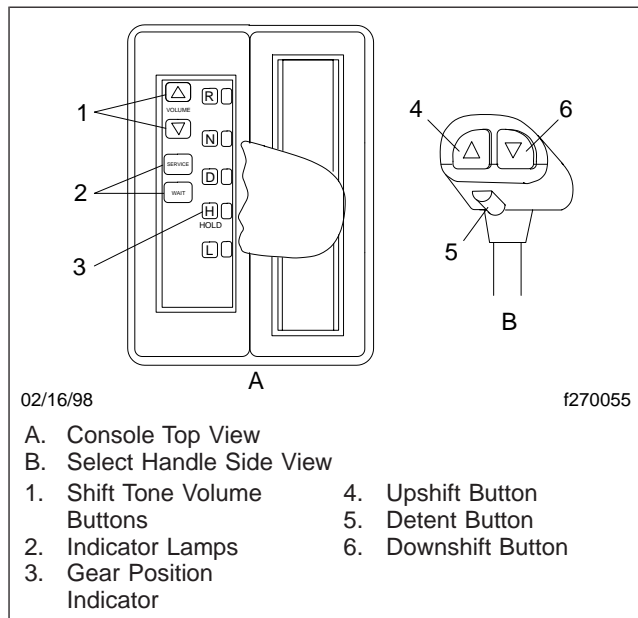

Fig. 8.24, Driver Command Console (DCC)
When conditions are right for a shift, the transmission Electronic Control Unit (ECU) notifies the driver with a tone from the Driver Command Console (DCC). See Fig. 8.24. The driver, when ready to shift, breaks torque and the transmission goes to Neutral.
- The Driver Command Console, or DCC (**Fig. 8.24**), replaces the shift lever and controls the transmission's shift patterns. There are indicators for the three forward positions: drive, hold, and low, plus reverse and neutral positions. Shift tone volume buttons and service and wait lamps are also located on the console. The gear select handle contains up-
2. Select either LO or HI reverse by depressing either the downshift or upshift button (Fig. 8.24) on the gear select handle.